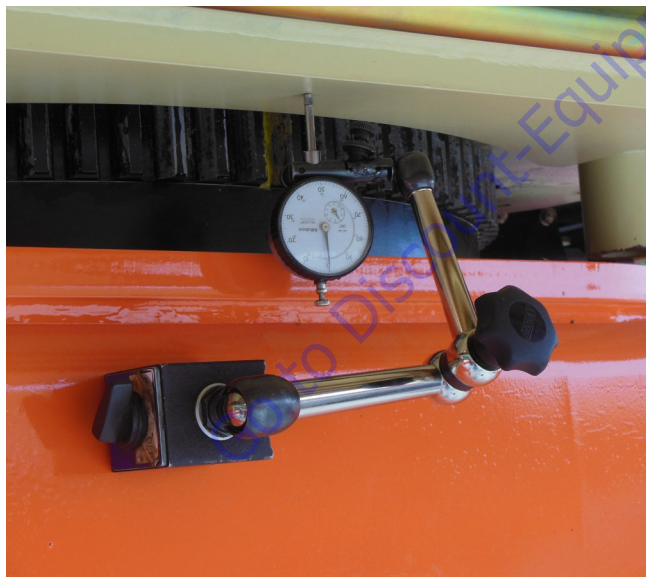

Figure 3-64. Dial Indicator General Location
- b. Position magnetic base of the indicator on vertical member of frame as shown in Figure 3-64.